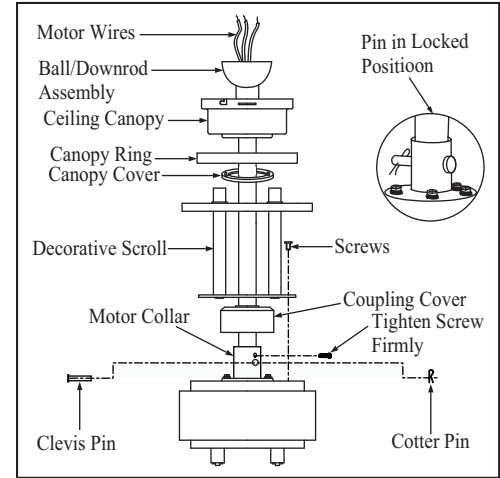

Figure 7
3. Route wires exiting from the top of the fan motor through the coupling cover, decorative scroll, canopy cover, canopy ring, canopy and then through the ball/ downrod. (Figure 7)
5. Align the holes at the bottom of the downrod with the holes in the coupling on top of the motor housing. (Figure 7) Carefully insert the clevis pin through the holes in the collar and downrod. Be careful not to jam the clevis pin against the wiring inside the downrod. Insert the cotter pin through the hole near the end of the clevis pin until it snaps into its locked position, as noted in the circle inset of Fig. 7.
6. Tighten two set screws on top of the fan motor firmly. Attaching the decorative scroll to the motor housing using the screws provided. (Figure 7)